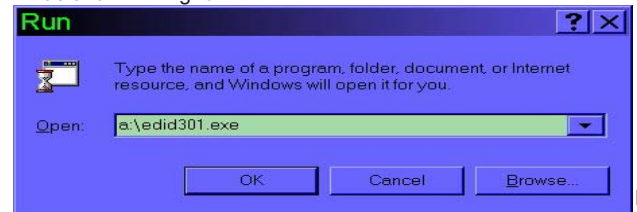

Fig. 6
3. At the submenu, type the letter of your computer's floppy disk drive followed by :EDID301 (for example, A:\EDID301.exe,) as shown in Fig. 6.